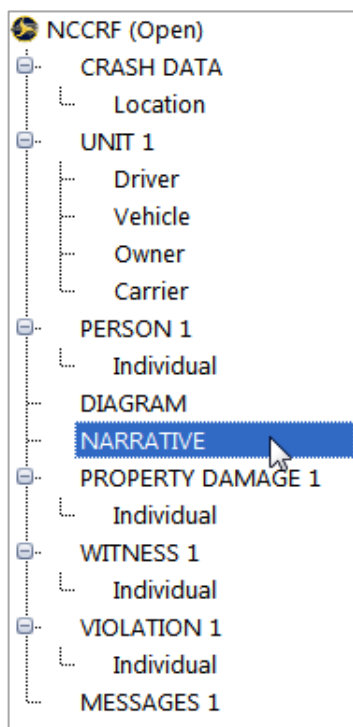

Figure 50. Narrative Selected in Navigation Tree
1. Select **NARRATIVE** in the Navigation Tree, as shown in Figure 50.